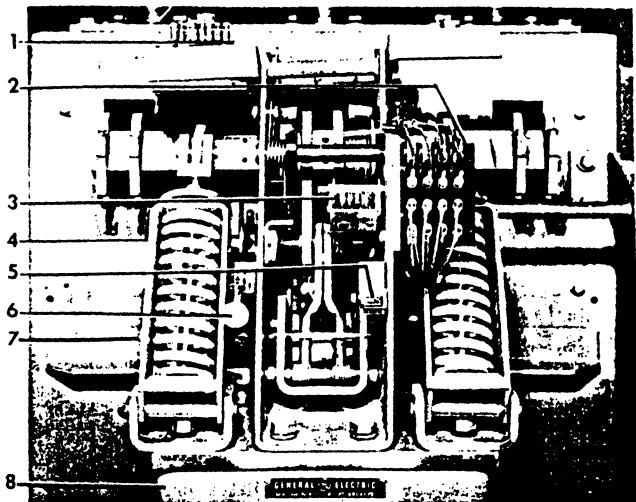
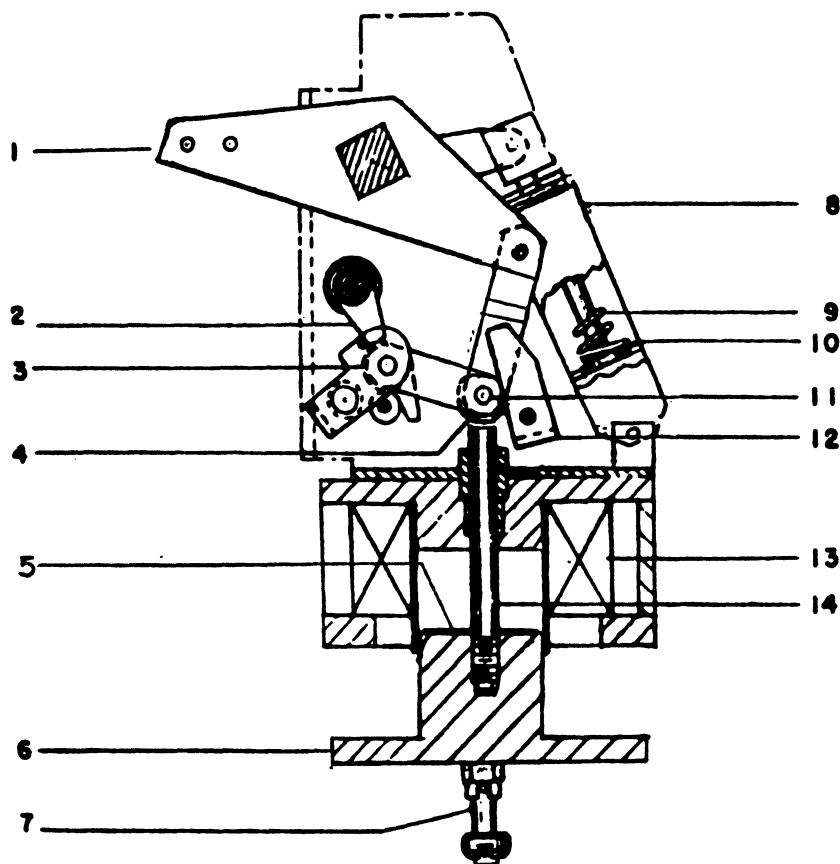
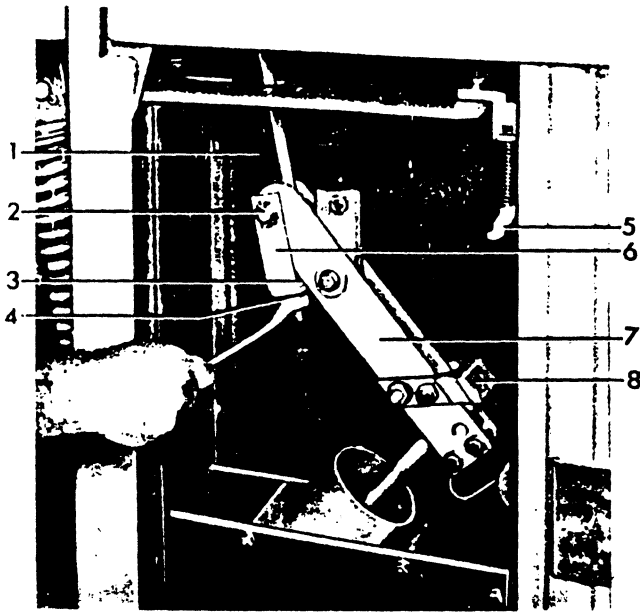
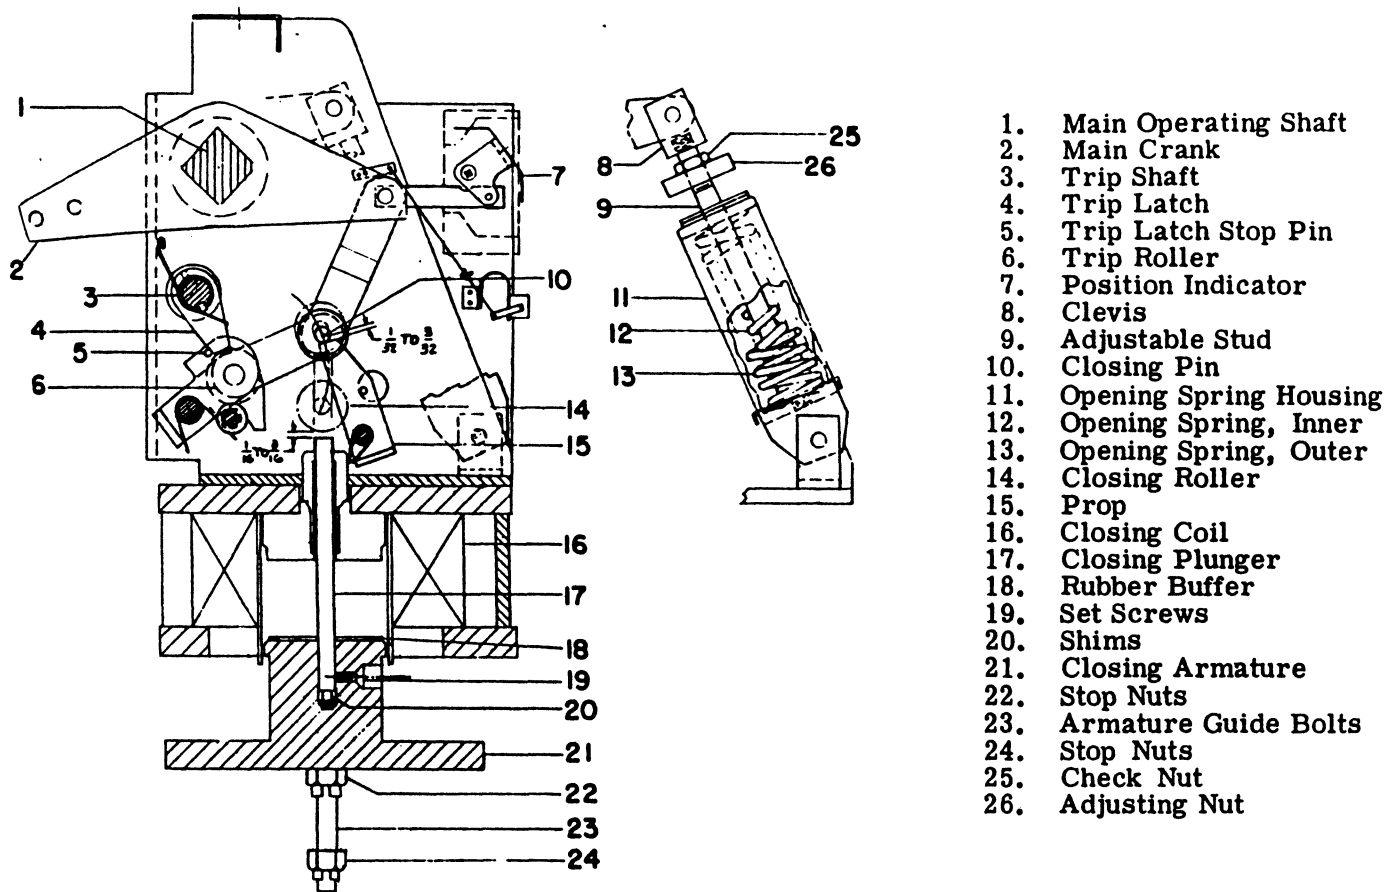

Figure 2 (8029611) MS-13 Operating Mechanism
Figure 4.(0137A7682) Cross Section of MS-13 Operating Mechanism in the Open Position.
Figure 8. (8038802) Adjustable Coupling For Making Primary Contact Wipe Adjustments
Figure 9. (0962C0772) Cross Section of MS-13 Mechanism in closed position.
metal-clad unit are made through the coupler (1) Figure 2.
the closing coil operates. Closing operations are controlled electrically from the metal-clad unit and remote location. The trip solenoid will operate on a-c or d-c voltage as indicated on the breaker nameplate. Opening operations are controlled either electrically from the metal-clad unit and remote location, or mechanically by the manual trip lever (6) Figure 2 on the breaker.
As the main contacts of the control device close, the breaker closing coil is energized. This raises the armature (6) Figure 4 which in turn lifts the closing roller (4) through a plunger (14). This motion is transmitted through the mechanism linkage, and rotates the main crank (1), closing the breaker contacts. As the armature reaches the end of its travel, the prop (12) rotates beneath the pin (11) latching the breaker in the closed position. Through out the closing operation the mechanism is trip-free at all times.
The breaker can be opened either electrically by energizing the trip coil (1) Figure 25 or manually by pushing the trip lever (6) Figure 2. In each method the trip latch (2) Figure 4 is rotated off the trip latch roller (3) permitting the operating mechanism linkage to collapse. The energy stored in the opening springs is released to provide the required opening speed for successful interruption of the circuit. During this operation the trip coil circuit is de-energized, and upon completion of the opening operation, the operating mechanism is returned to its normal position, ready for closing.
If the trip coil circuit is energized while the breaker is closing, the trip armature will force the trip latch (2) Figure 4 away from the trip roller (3) causing the mechanism linkage to collapse and the breaker to re-open. The closing armature (6) completes its closing stroke, the closing coil is de-energized at the end of the stroke and the armature is returned to its original position by gravity.
that the prop pin (11) Figure 4 is resting on the prop. To obtain the proper contact adjustment, open the breaker and, referring to Figure 8, loosen the check nut (4) and turn the adjusting nut (3). Screwing up on the adjusting nut will decrease the primary contact wipe, down will
Refer to Figure 8. With the breaker closed, press the manual trip button allowing the breaker to trip open normally. Do not force the contacts open wider by hand. The gap between the stationary primary contacts (5) and the movable primary contacts (8) measured between the closest points, should be 5-1/8" to 5-9/16". To change this gap, loosen the check nut (25) Figure 9, and turn the adjusting nut (26) on stud (9). Screwing the adjusting nut down will decrease the primary contact gap. Tighten the check nut and re-measure the contact gap (close and trip the breaker before checking the measurement).
Refer to Figure 9. The wipe of the trip latch (4) on the trip roller (6) should be from 3/16" to 1/4". This can be measured by putting a film of grease on the latch, closing the breaker part way, and tripping. The mechanism has the proper trip latch wipe when the latch rests against the stop pin (5). No adjustment is provided and a visual inspection is usually all that is required. If this setting is not correct, look for insufficient travel of the trip shaft (3).
Refer to Figure 9. With the breaker closed as far as possible with the maintenance device, the clearance between the closing pin (10) and the prop (15) should be 1/32" to 3/32". Measure the prop clearance with a feeler gauge to determine whether or not an adjustment should be made, and if so, exactly how much adjustment will be required. To make the adjustment, it will first be necessary to open the breaker and remove the maintenance operating device. Remove the stop nuts (22 and 24) being careful not to drop the armature (21). Lower the armature from the mechanism and remove the two set screws (19). Remove the closing plunger (17) from the armature and add or subtract the necessary thickness of shims (20) to give the required adjustment, then replace the closing plunger, screwing it down against the shims. Using a small drill, spot the closing plunger through the set screw hole. Replace the set screws. Remount the armature on the breaker. After reassembly, remount the maintenance closing device and check the adjustment.
Refer to Figure 9. With the breaker in the open position, the clearance between the closing plunger (17) and the closing roller (14) should be 1/16" to 3/16". To obtain this clearance, the nuts (22) on the two armature guide bolts (23) may be raised or lowered. Both nuts should be moved the same amount. After making an adjustment, close and open the breaker and recheck the plunger clearance.
Operate the solenoid armature plate (12) with the maintenance closing device. The control device plunger (9) should not travel more than $3/32$ " from the point where the control device trips until the prop (15) Figure 9 falls in place. The plunger should travel a minimum of $1/32$ " after tripping the control device. The control device arm (7) Figure 3 should have a minimum of $1/32$ " overtravel with the plunger fully raised by the armature plate.